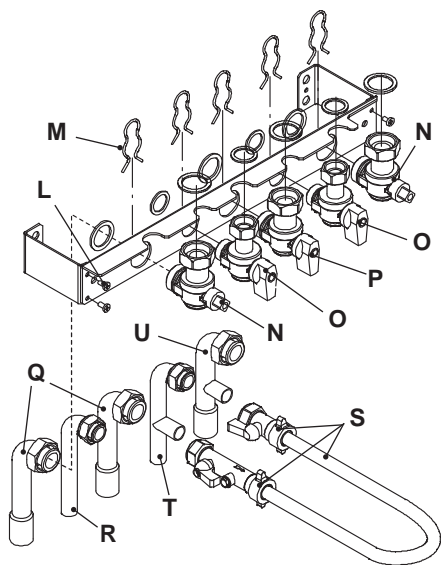

Fig. 6.3
- Assemble the pre-piping kit bracket by screwing the four screws " L " Fig. 6.3.